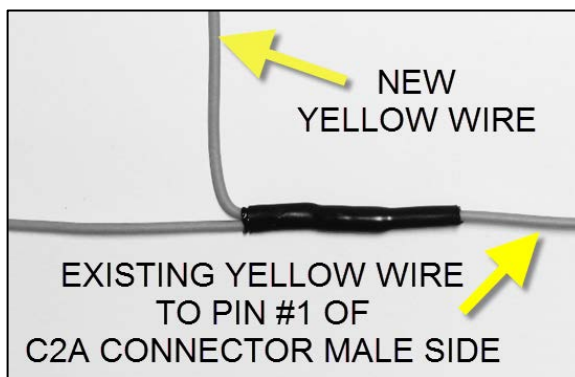

Figure 15
22. On one end, use butt splice #562228 and splice the existing yellow wire C2A with the new wire (Figure 15). Crimp and solder it.
23. Heat the shrink tubing as shown in Figure 15.